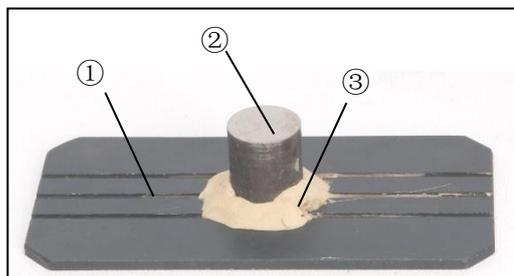

Fig.4
### 3-4 Specimen preparation and placement (Fig.4, Fig5)
1. The specimen (Num② in Fig.4) for observation is fixed on the sample plate (Num① in Fig.4) by use of silly putty (Num③ in Fig.4), and ensure the specimen surface is parallel to the sample plate. You can use the nipping machine to press the sample. (as shown in Fig.5).